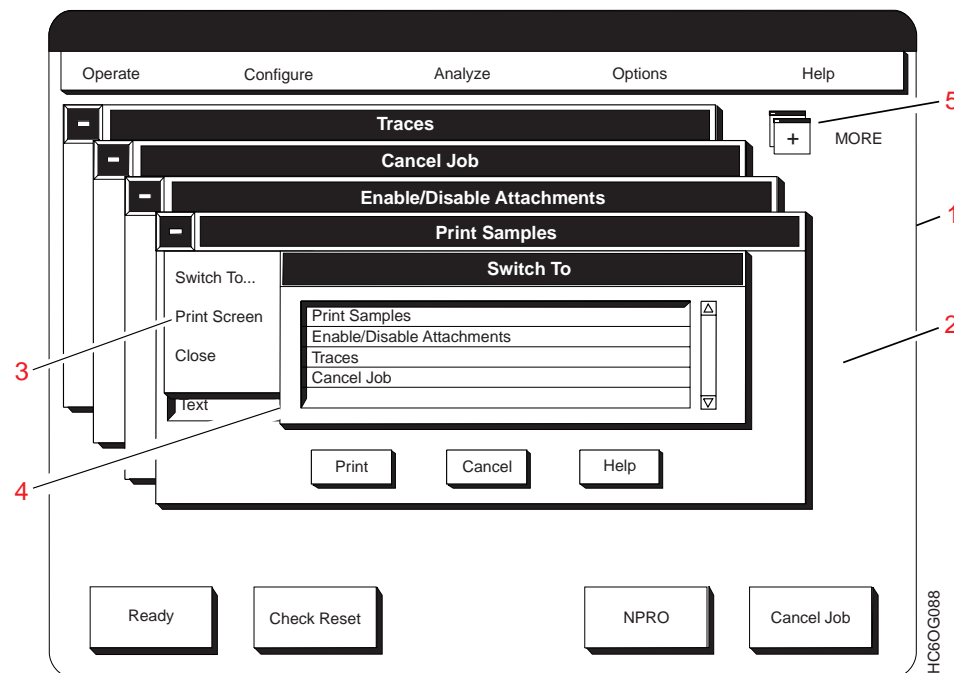

Figure 16. Procedure Windows in Cascade Format
- A selection list box with many items from which you can select. See **(4)** in Figure 16 on page 56 for an example of a pop-up window with a selection list box.
Displays a pop-up window that lists all of the procedures that are currently open (for example, see (4) on Figure 16 on page 56). Selecting any procedure name from the list moves the window for the procedure to the front.
Figure 16 shows: